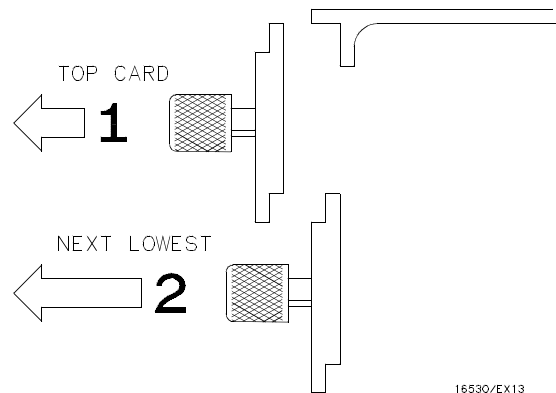

Figure 6-14. Endplate Overlap
- c. Starting **from the top**, begin pulling all filler panel(s) and card(s) out **half way**. See figure 6-14.